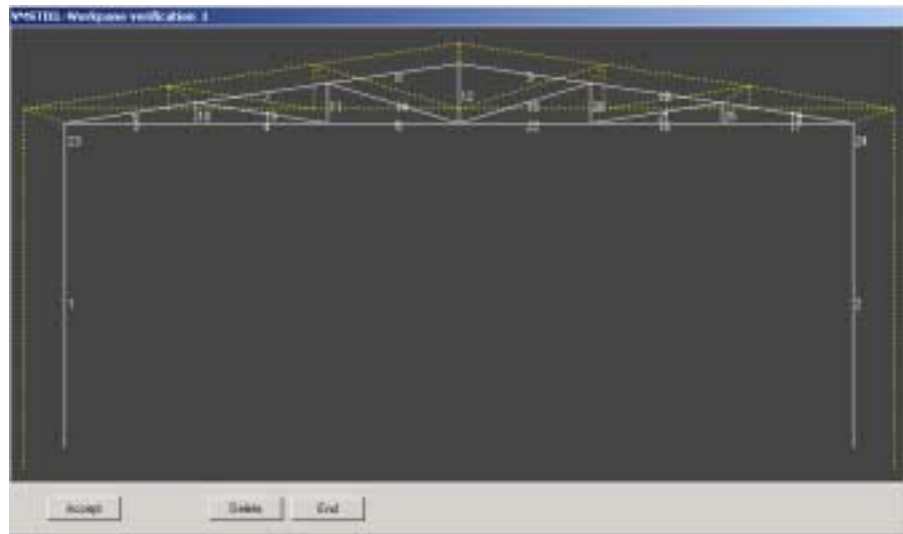

Figure 96 The workpanes' verification central window.
1. After choosing CONTINUE in the "JOINTS DESIGN WIZARD" dialogue box, the "WORKPANE VERIFICATION..." screen will appear (figure 96). A perspective draft of the structure that presents all members which do not belong to the first workpane suggested for verification in yellow will appear in the window. The members that constitute the workpane to be recognized are represented in white colour.